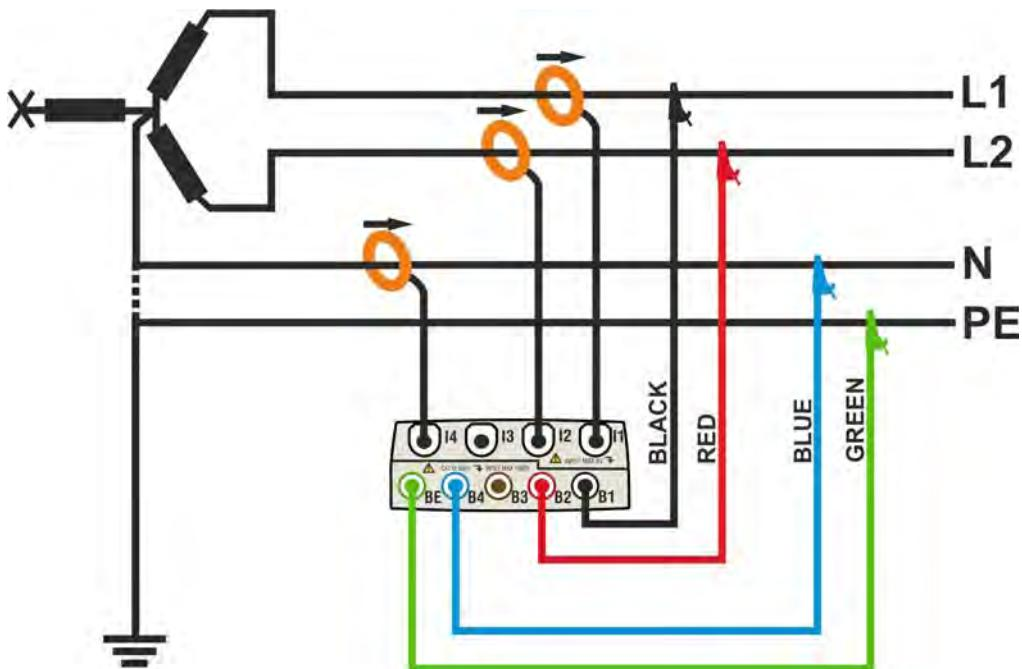

Fig. 144: Meter connection in a two phase 3-wire 3POY system – ENG type
2. Connect voltage test leads on Phases L1, L2, N and PE cables considering the colours as shown in Fig. 144
3. Connect the transducer current clamps on Phase L1, L2, N cables as shown in Fig. 144 respecting the clamp's arrow direction indicating the current standard sequence from generator to load. **On Real Time Values' section screens (selecting a 3 wire system preliminarily) always verify the positive value of Active Power and the power factor relative to load which should be normally inductive** before starting a recording. Reverse the clamp by 180 degrees on cables in case of negative readings.